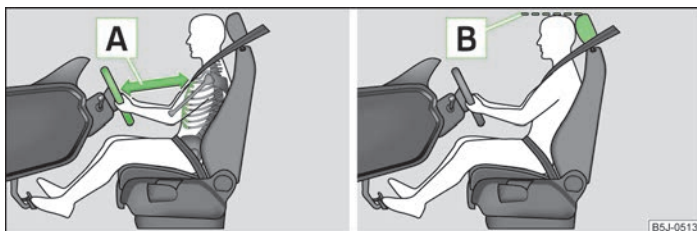

Fig. 110 The correct distance of the driver to the steering wheel/The correct head restraint adjustment
- Adjust the steering wheel so that the distance **A** » Fig. 110 between the steering wheel and your chest is at least 25 cm.
- Adjust the head restraint such that the top edge of the head restraint is at the same level as the upper part of your head **B** » Fig. 110 on page 123.
- Adjust the head restraint such that the top edge of the head restraint is at the same level as the upper part of the head **B** » Fig. 110 on page 123.